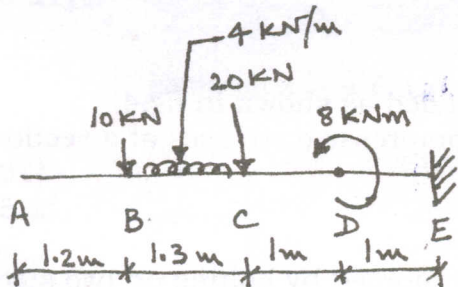

Fig 5
- Q4 Determine θ_A , θ_B , y_A and y_B for the cantilever beam loaded as shown in fig.5 using Macaulay's method $E=2 \times 10^5 \text{N/mm}^2$, $I=2 \times 10^8 \text{mm}^4$. (12.5)